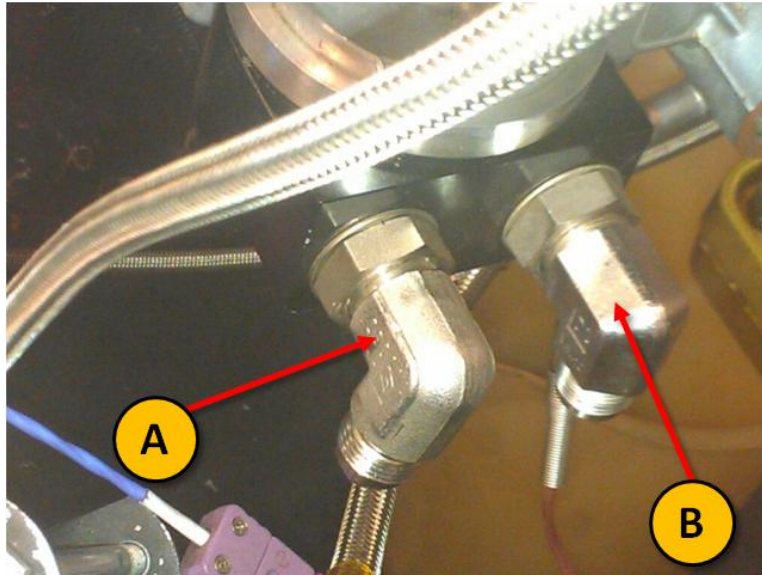

Figure 4. Engine-mounted oil filter housing adapter return to engine (A) and supply to oil filter (B) line connections
1. Refer to Figure 4. Disconnect the supply and return lines from the remote oil filter housing adapter that is mounted on the engine.